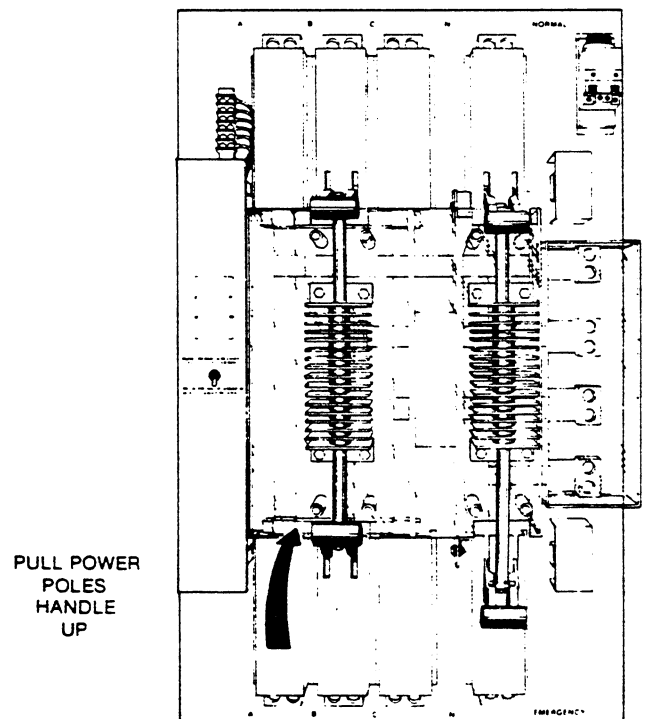

FIGURE 11.
1. Pull the lower power pole handle up, as illustrated in Figure 11, disconnecting the load from the emergency power source.